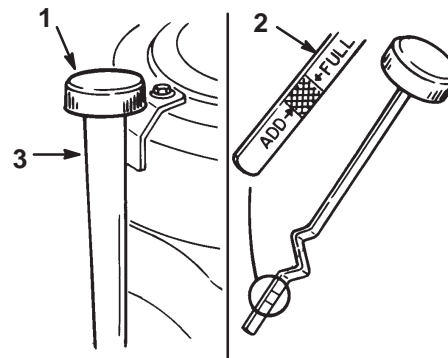

Figure 33
3. Clean around the oil dipstick (Fig. 33) so dirt cannot fall into the filler hole and damage the engine.
4. Unscrew the oil dipstick and wipe the metal end clean (Fig. 33).
5. Screw the oil dipstick fully onto the filler tube (Fig. 33). Unscrew the dipstick again and look at the metal end. If oil level is low, slowly pour only enough oil into the filler tube to raise the level to the "FULL" mark.
6. Slowly pour approximately 80% of the specified amount of oil into the filler tube (Fig. 33). Now check the oil level; refer to Checking Oil Level, page 30, steps 4–5.